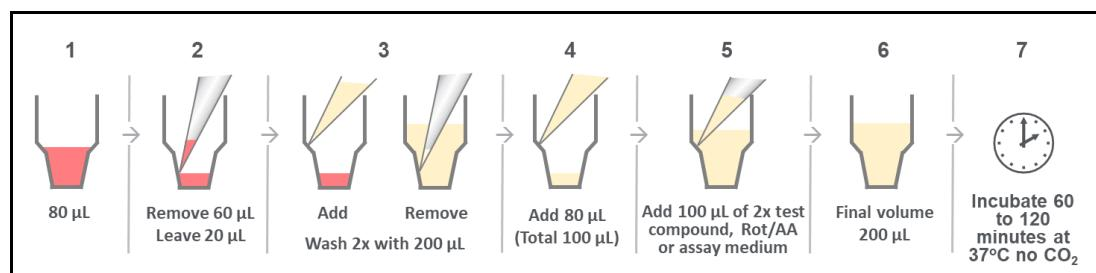

Figure 7. XF Pro M cell plate preparation and test compound pre-incubation. Leave 20 μ L of medium at each wash step to minimize damage to the cell monolayer.
- 2 Wash the cell plate twice with prewarmed assay medium, as indicated in **Figure 7**. After wash, leave 100 μ L medium in each well (see step 4 in **Figure 7**).
- If an acute injection is desired, adjust the starting volume in each well to 175 μ L in the last wash step (step 6 in Figure 7), as the final volume before the start of the assay.